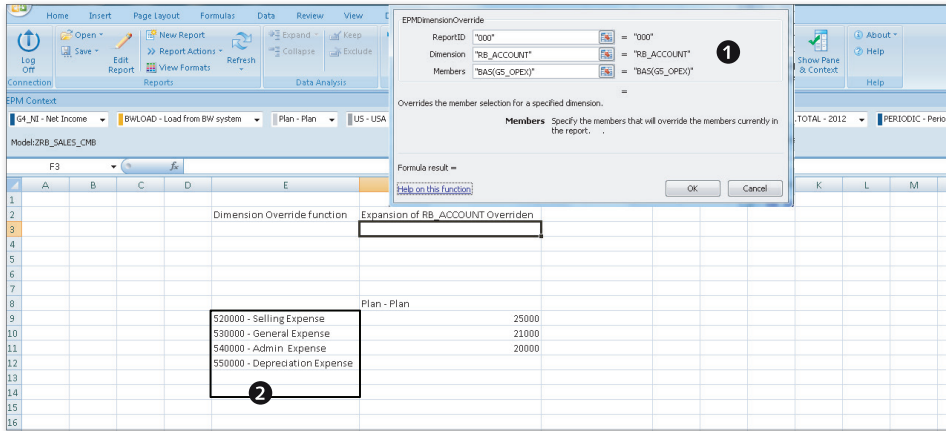
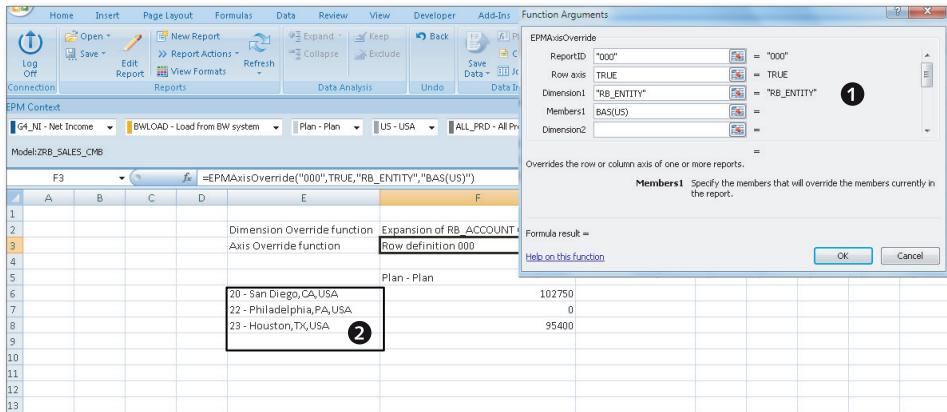

Figure 5.30 Using the EPM Dimension Override Function—Part B
Figure 5.31 Using the EPM Axis Override Function
2. Specify the `REPORTID`, `DIMENSION`, and `MEMBERS` parameters (Figure 5.30, ❶). The `REPORTID` is usually “000” if there is only one report in the worksheet. The `REPORTID` parameter for a report can be obtained by using the `EPMReportID` function. It is also displayed in the EPM pane for that report. The `DIMENSION` parameter is the name of the dimension in the row axis. The `MEMBERS` parameter is the name of the member you want to use to override the value in the current selection. This can be hard-coded to a value, or it can reference a value in another cell. In our example, we have hard-coded this value to display the base of all member under the `G5_OPEX` node in the `RB_ACCOUNT` dimension.
3. When you refresh the report, you see the changes to the report based on the selections in the `EPMDimensionOverride` function (Figure 5.30, ❷).
Figure 5.30 displays a report with the account data in the rows and category data in the column. Let's say that you want the entity data to be displayed in the rows instead of the account data. In that case, you will use the `EPMAxisOverride` function. The `EPMAxisOverride` includes five parameters: `REPORTID`, `ROW AXIS`, `DIMENSION1`, `MEMBERS1`, and `DIMENSION2` (Figure 5.31, ❶). Specify the `REPORTID`, and then specify whether this function applies to the row axis in the `ROW AXIS` box. If it applies to the row axis, you pass the parameter as `TRUE`. If it applies to the column axis, you pass the parameter as `FALSE`.
- When you refresh the report, you see the changes to the report based on the selections in the EPMAxisOverride function (Figure 5.31, ②).